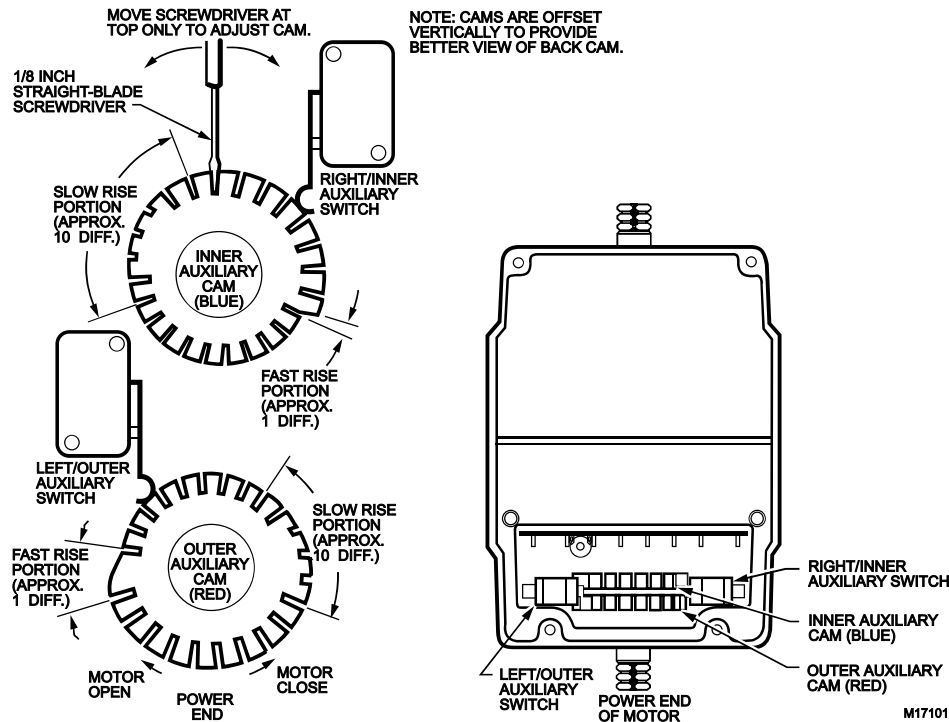

Fig. 12. Auxiliary switch adjustment.
Motors with factory added auxiliary switches are shipped in the closed position (fully counterclockwise, as viewed from the motor power end) with auxiliary cams set to actuate switches 30° from the closed position and to provide 1° degree differential. With the motor in the closed (fully counterclockwise) position, the auxiliary switch breaks contacts R-B. See Fig. 12 for auxiliary switch wiring.
1. Insert 1/8 in. screwdriver blade into a slot on cam and move the screwdriver top as far as possible in the required direction. See Fig. 12.